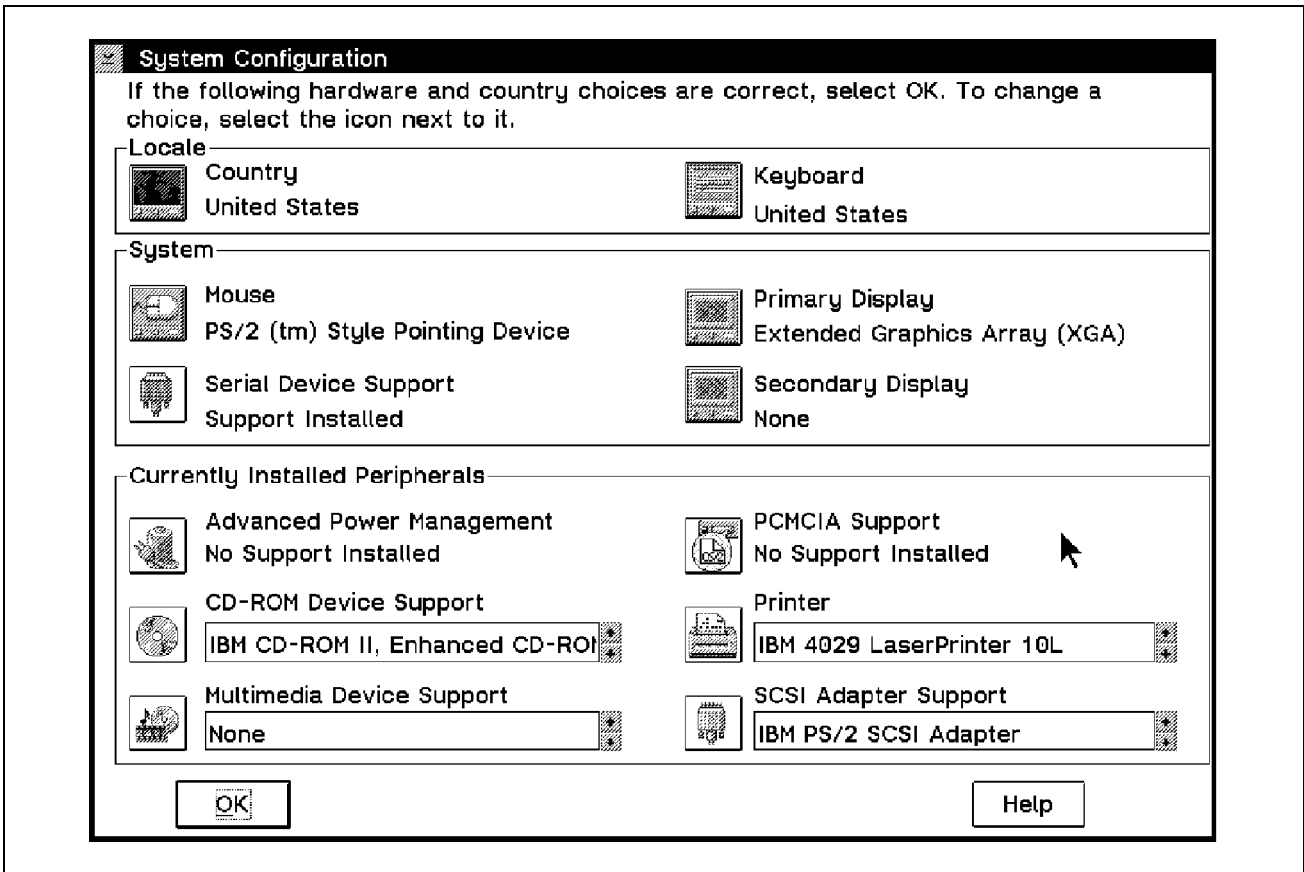

Figure 25. The Selective Install Dialog
- Double-click at the **Selective Install** icon. The selective install dialog appears as seen in Figure 25.